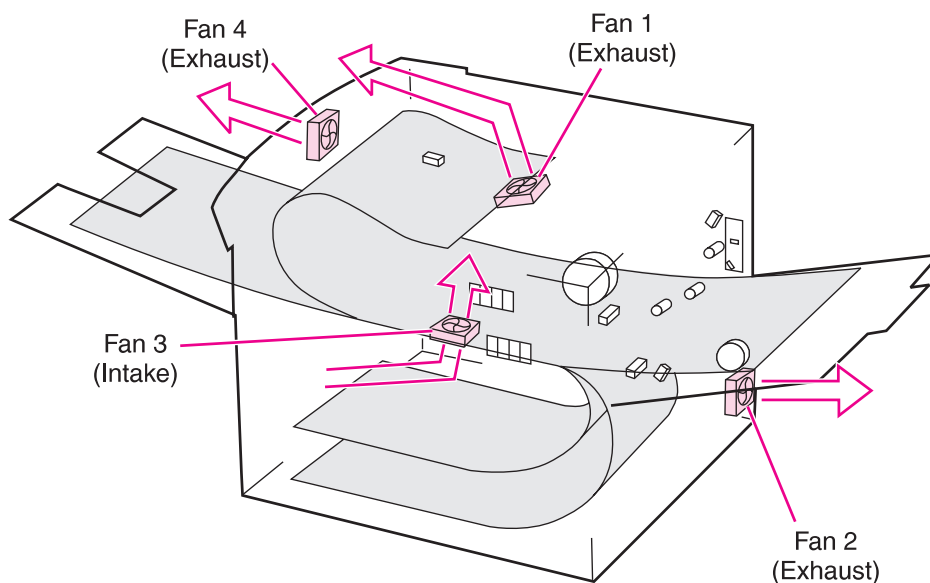

Figure 7-3 Fan Location and Airflow
3. Are the printer's fans on? (See figure 7-3 on page 389 to locate the fans.)	Note: Fan operation is significant since all fans are controlled by the printer's DC Controller PCA. When the printer is in power save mode, the fans are off. Make sure that the printer is not in power save mode. Press Go. Operational fans indicate: 1. AC power is present in the printer. 2. DC power supply is functional (both 24V DC and 5V DC are being generated). 3. DC Controller PCA's micro-processor is functional.